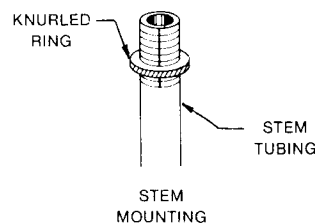

FIG. 1A
2. Use STEM TUBING with 1/4-18 pipe thread 3/4" long (not supplied). Screw KNURLED RING onto STEM TUBING. See Fig. 1A.